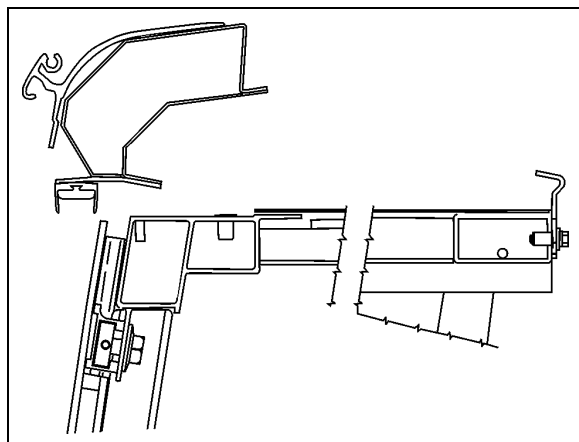

FIGURE 34: SLIDE-OUT 2" INSIDE – UPPER PART
8. Using the manual override procedure (paragraph 18), move the slide-out 2" inside the vehicle, so the seal is accessible from outside (FIGURE 34).